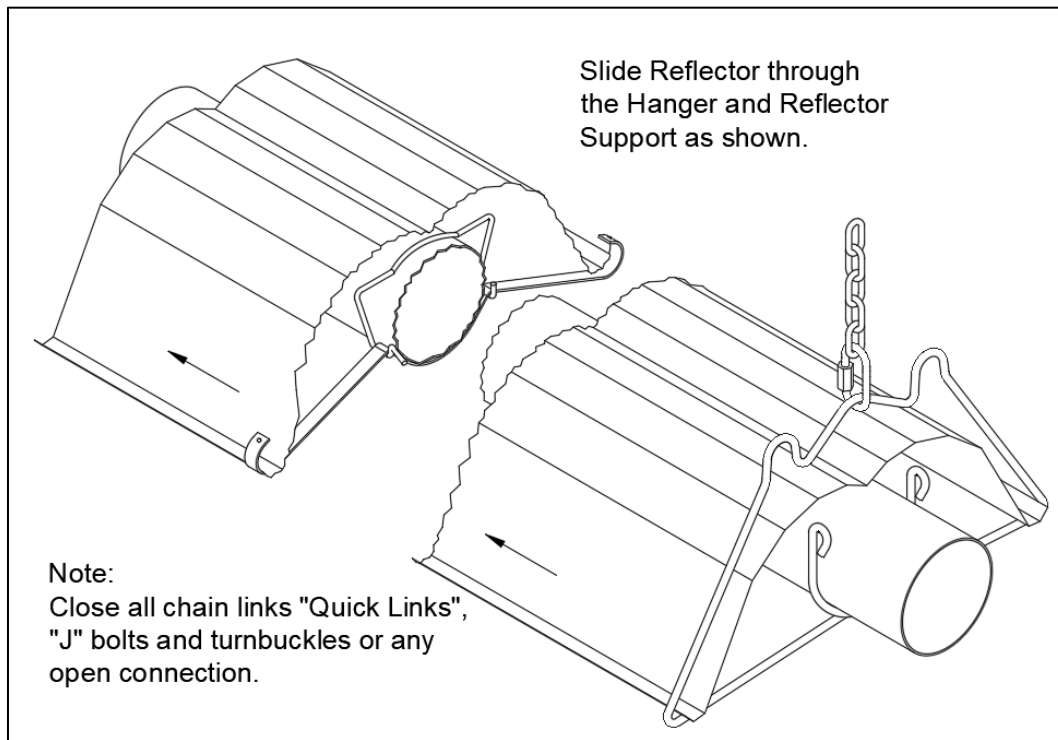

Figure 16: Reflector Installation
- Slide a reflector section into place within the support hanger, (Figure 16).